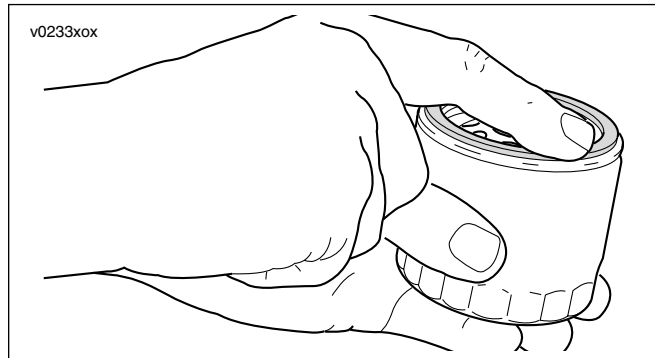

Figure 1-23. Lubing New Oil Filter
5. See Figure 1-23. Lube the gasket on **new** oil filter with engine oil and install **new** filter. Hand tighten oil filter 2/3 to 1 turn after gasket contacts filter mounting surface.